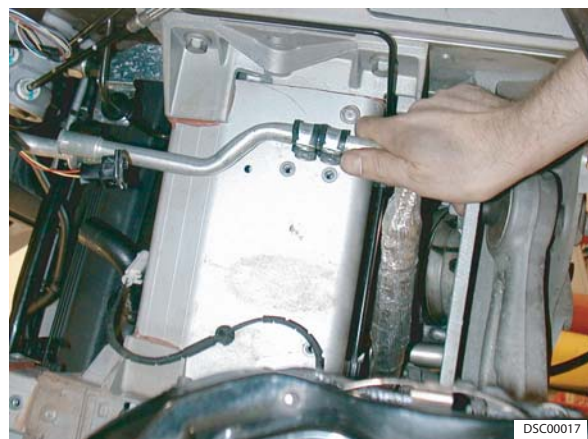

Figure 30
29. Install bolts (x2) LP pipe to body P-clips (refer to Figure 30).